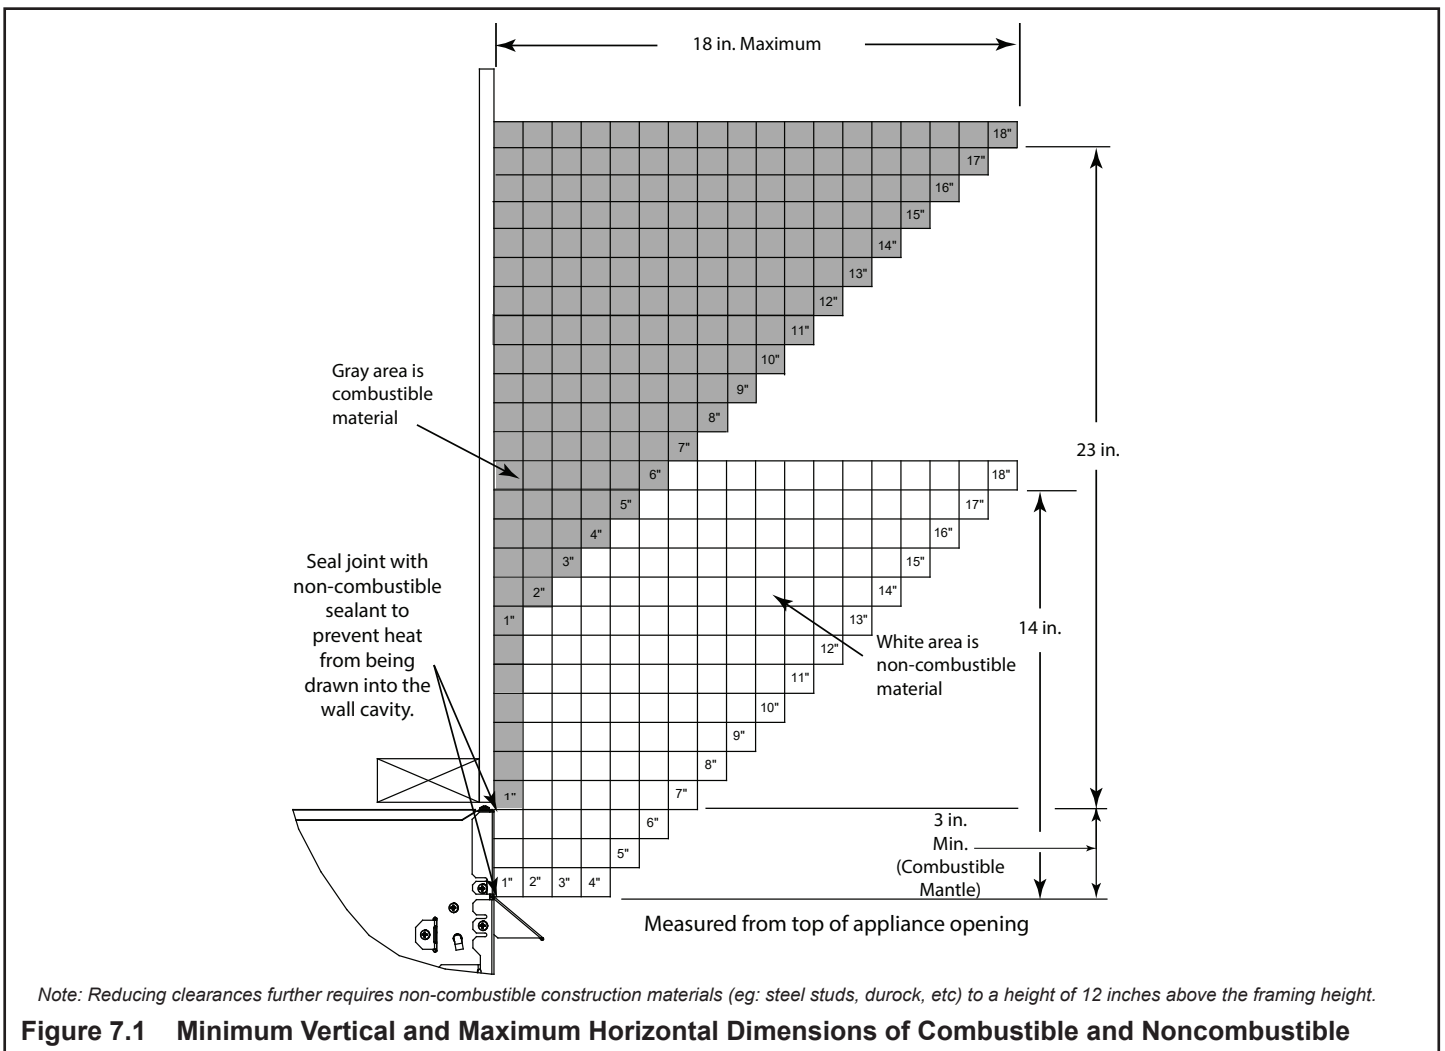

Figure 7.1 Minimum Vertical and Maximum Horizontal Dimensions of Combustible and Noncombustible
- See Figures 7.1 and 7.2 for combustible and non-combustible mantel and mantle leg clearance requirements.